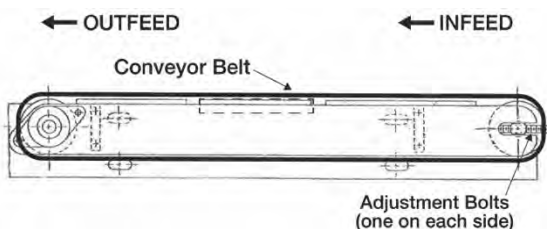

Figure 9-18: Changing Conveyor Belt
2. Loosen and remove the two conveyor belt adjustment bolts located on the right and left side of the conveyor belt at the infeed end of the machine. This will create looseness and slack in the conveyor belt. See Figure 9-18.
Adjust the conveyor belt tracking with the conveyor belt adjustment bolt on each side of the conveyor (see Figure 9-18).